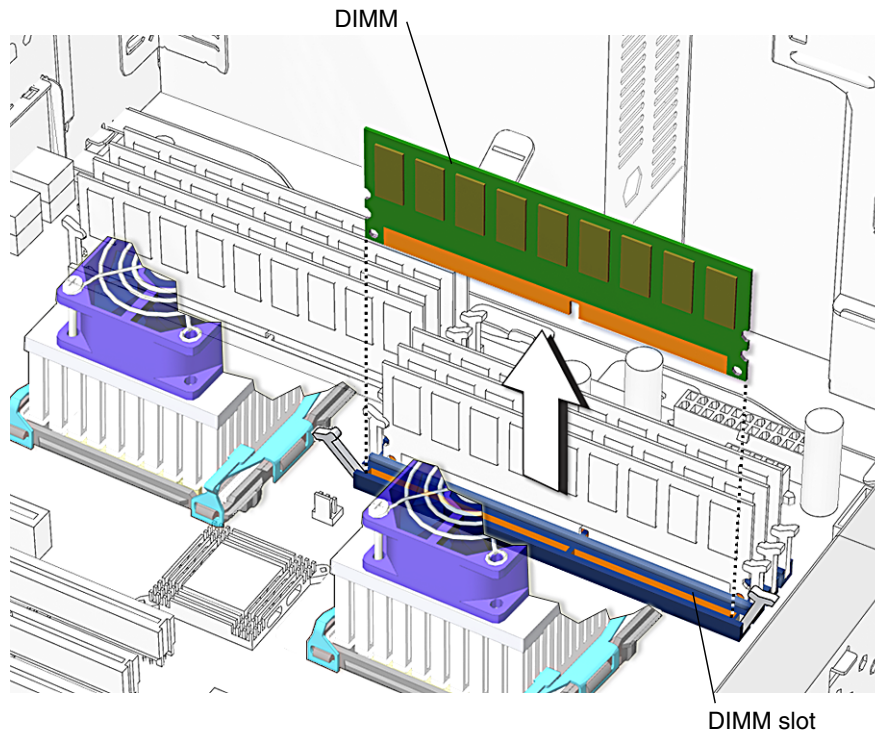

FIGURE 11-3 Removing the DIMM
7. Lift the DIMM straight out of the DIMM slot (FIGURE 11-3).